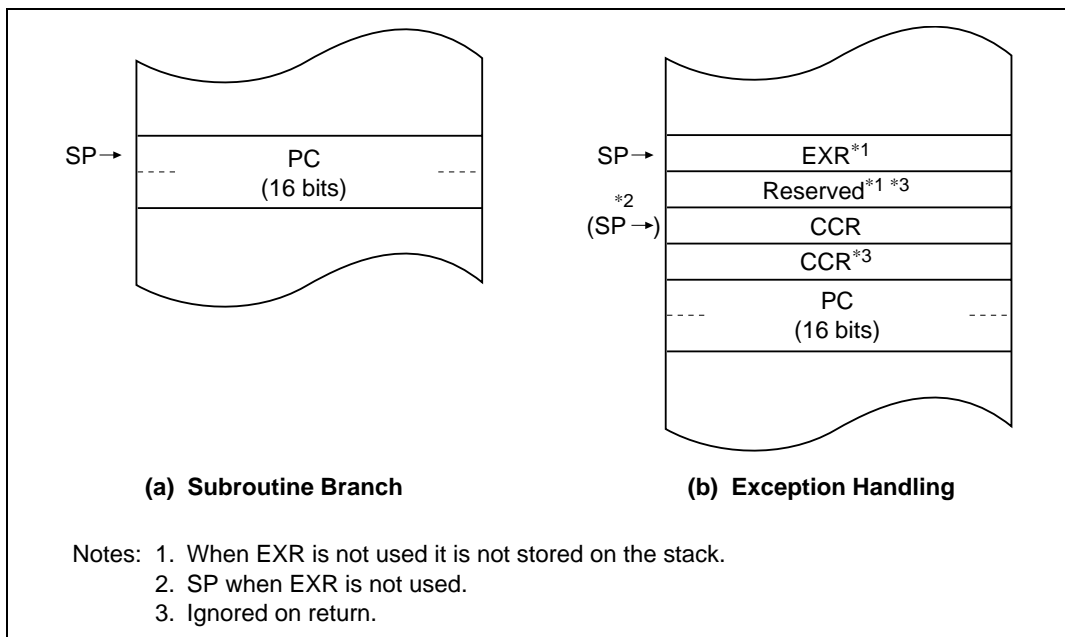

Figure 1.3 Stack Structure in Normal Mode
Stack Structure: When the program counter (PC) is pushed onto the stack in a subroutine call, and the PC, condition-code register (CCR), and extended control register (EXR) are pushed onto the stack in exception handling, they are stored as shown in figure 1.3. When EXR is invalid, it is not pushed onto the stack. For details, see the relevant hardware manual.